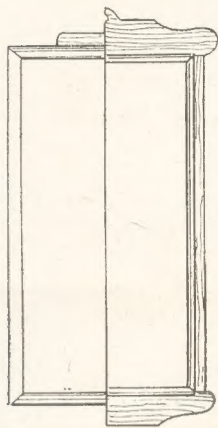
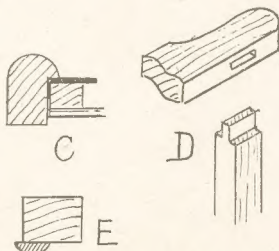

Fig. 1—Two frame suggestions
Fig. 5—Rebate and joint details
Fig. 1 shows two examples
As stated at the commencement of this article, two examples of simple but suitable framing are given in Fig. 1. The left-hand side one is a frame of half-round moulding, of the usual picture frame style. The rebate must be deep enough to receive frame, glass and backing, as well, as in Fig. 5 (C), say, $\frac{3}{4}$ in. deep, and can be in black or gold, both, perhaps, equally suitable.